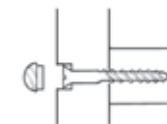

Fig 9 Securing the shelves and covering with timber button caps
- Next, take a 9.5mm drill bit and drill to a depth of 5mm to accept a timber plug which will conceal the screw (see Fig 9).